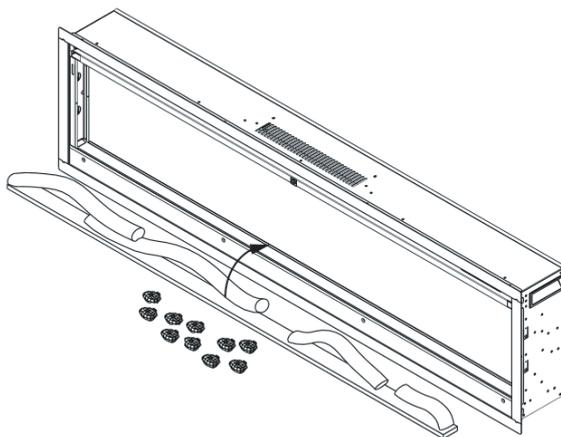

Figure 1
- If your fireplace come with log-set, remove the log-set from the package, put it to the fireplace designed place. Figure 1
- Then place the crystal embers carefully into the bottom tray on the front of the appliance as illustrated. Apply an even layer from side to side. Figure 1